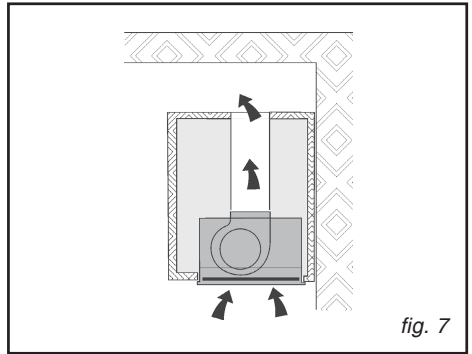

fig. 7
- Prepare the air exhaust hole in the upper part of the pensile cupboard (Fig. 7).